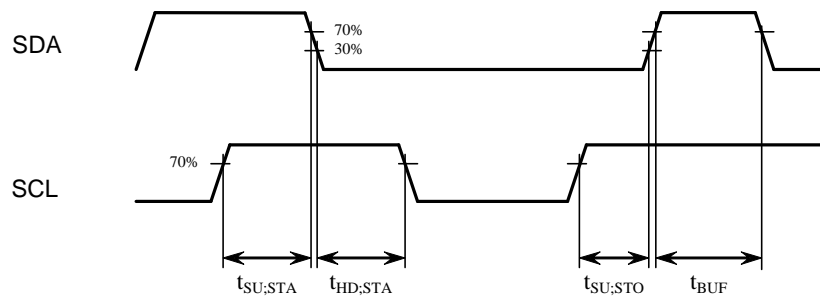
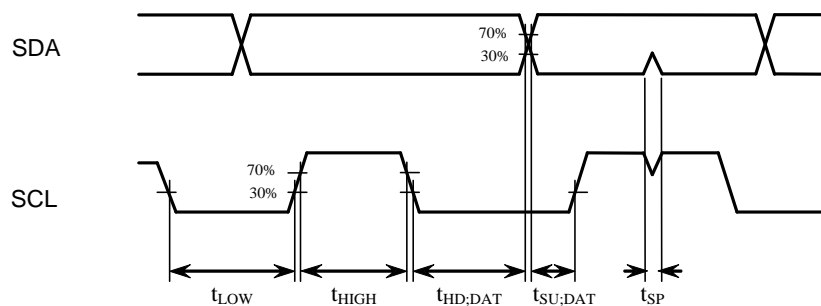

Figure 4 I2C Start and Stop timing
Figure 5 I2C Data timing
**Notes:**(i) All timing specifications, Figure 4 and Figure 5, refer to voltage levels ( $V_{IL}$ ,  $V_{IH}$ ,  $V_{OL}$ ) defined in Table 5.